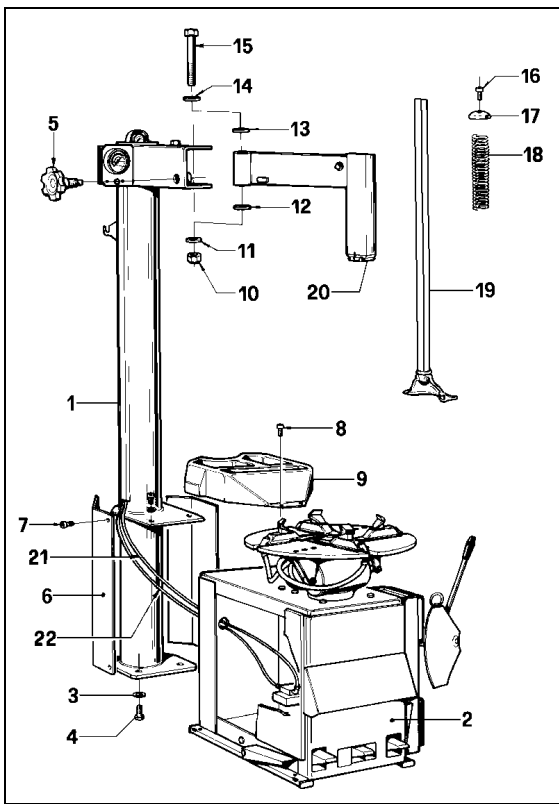

Fig.8
**B** Attach the column #1 (Fig.8) to the cabinet #2 with the screws #4 and washers #3. The screws must be firmly tightened.